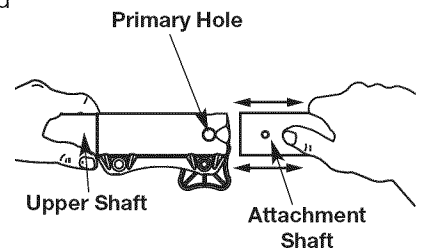
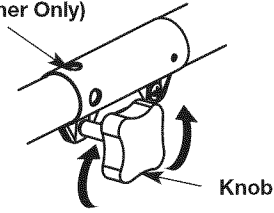

Fig. 10
Fig. 11
1. Turn the knob counterclockwise to loosen (Fig. 11).
3. While firmly holding the upper shaft, pull the trimmer attachment or other attachment straight out of the Convertible™ coupler (Fig. 10).
CAUTION: Before operating this unit, be sure that the release button is fully snapped into the primary hole (Fig. 10), and that the knob (Fig. 11) is securely tightened.
1. Turn knob counterclockwise to loosen (Fig. 11).
2. While firmly holding the trimmer attachment or other attachment, push it straight into the Convertible™ coupler until the release button snaps firmly into the primary hole (Fig. 10).
3. Turn the knob clockwise to tighten (Fig. 11).
NOTE: When using the line trimmer or other attachment to edge, lock the attachment release button into the 90° hole (Fig. 11).